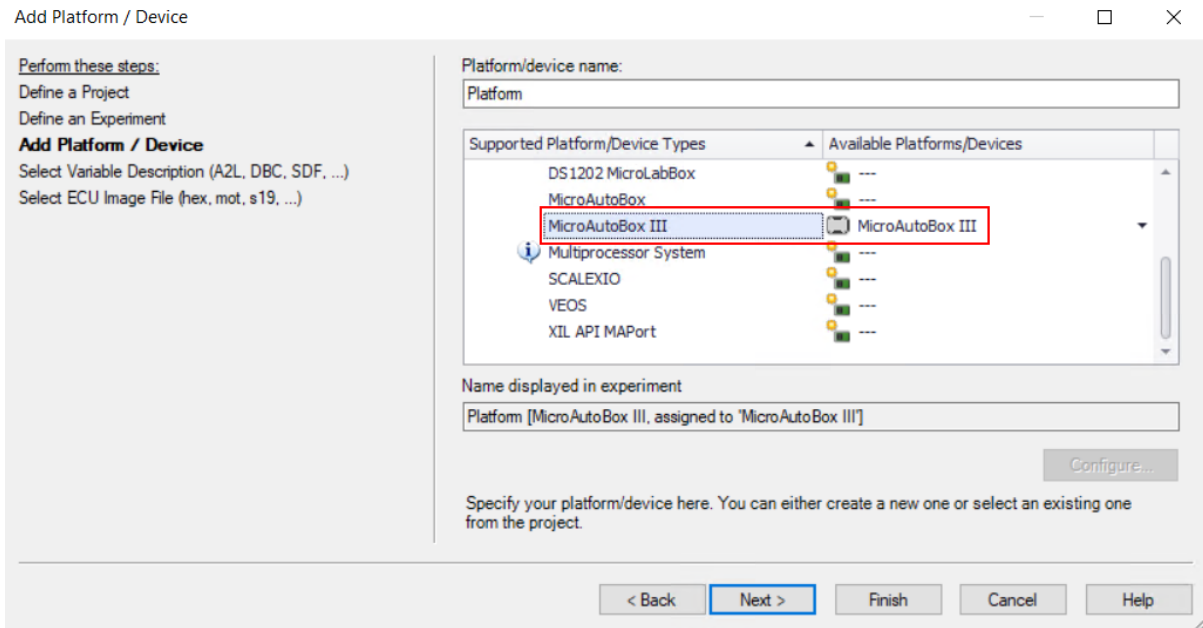

Figure 12.78: Select the MicroAutoBox III platform.
- 4) Select the platform to which you will deploy the generated executable (see Figure 12.78).